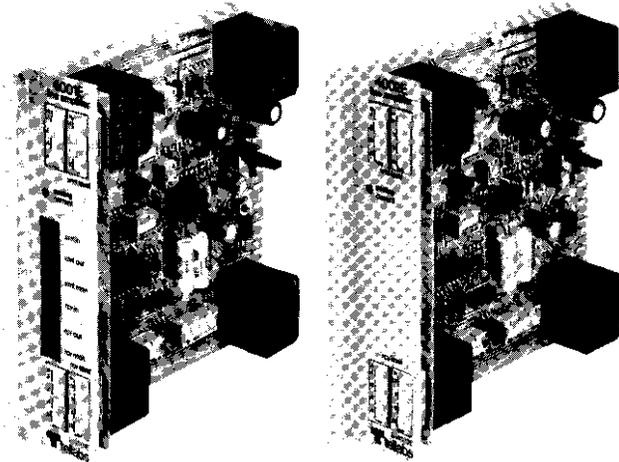

figure 2. 4001E and 4002E Prescription Line Amplifier modules
1.03 The 4001E and 4002E Prescription Line Amplifier modules (figure 2) each provide switch-selectable level control and impedance matching in both the transmit and receive channels of a 4wire voice-frequency transmission facility, plus optional amplitude equalization in the receive channel. The 4001E and 4002E are identical in all respects but one: the 4001E contains front-panel test jacks while the 4002E does not.
1.09 The 4001E/4002E Prescription Line Amplifier module (figure 2) provides gain, loss, equalization, and level control at the 246 System's common and multiple ports, thereby interfacing the fixed-loss resistive data bridge circuitry with external circuits.